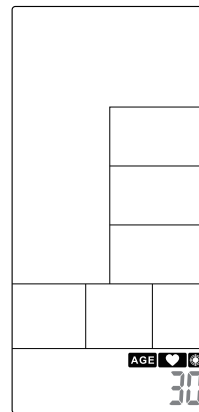

Figure 45
- ① In Standby mode, press Target Heart-Rate key and **AGE**   will light up, along with along sound for 1s.
- ② AGE value is flashing, press UP and DOWN to preset your Age (Figure 45). Press ENTER to confirm along with buzzer beeps 1s and   and HEART RATE last lighting up.